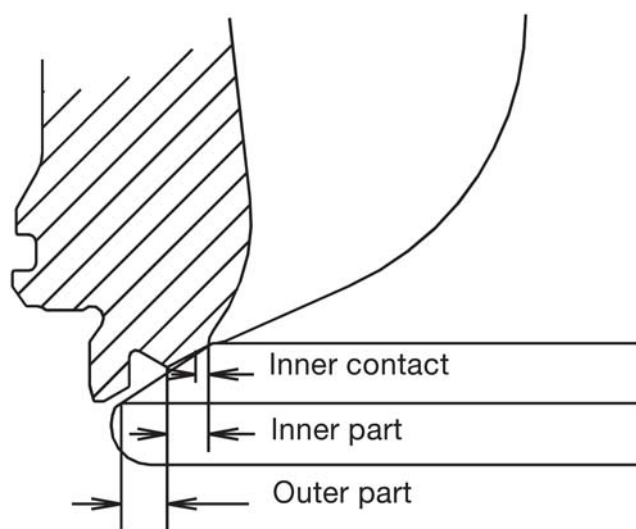

Figure 1: Inner contact, and zone designation
Fig. 1 shows inner contact between the seats of the spindle and bottom piece, corresponding to slow/low-load/manoeuvring condition.
(Figs. 1 + 4, and Photo 1).
- Check the outer part of the seat for high temperature corrosion (Fig. 1 and Photo 3).